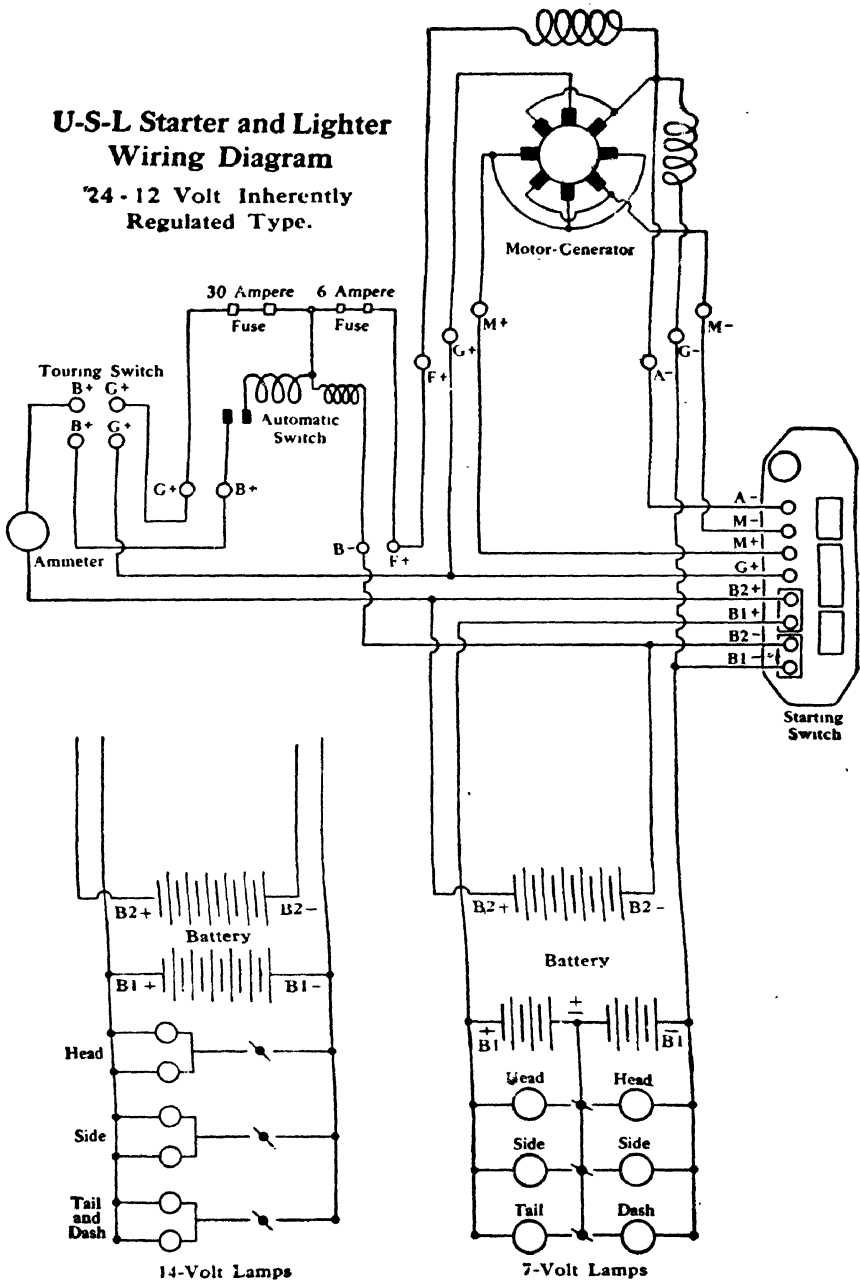
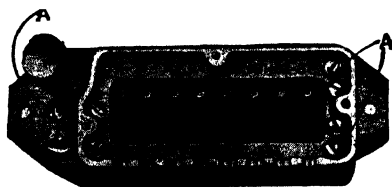

Fig. 335. Wiring Diagram for 24-12-Volt Inherently Regulated Type, U.S.L. System
Fig. 336. U.S.L. Oil-Filled Starting Switch
*Starting Switch.* The starting switch is filled with oil, and this should be renewed once a year. To do this, the switch must be disconnected, and the screws *A*, Fig. 336, removed; in case the box sticks, insert a screwdriver point between the top of the box and the bottom of the frame and pry loose. To guard against the switch dropping when these screws are removed, hold the hand beneath it while taking them out. Before attempting to remove the switch, disconnect the positive battery connections *B1+* and *B2+* at the battery as shown in Fig. 335. These are the two main terminals in the center. It is unnecessary to tape them, as a short-circuit cannot occur. Pour out the old oil, clean out thoroughly with gasoline, allow to dry, and refill with transformer oil or light motor oil to the proper level with the switch box standing plumb. The proper height on the Type E-2 or E-3 box is  $1\frac{5}{8}$  inches, on E-4 box  $2\frac{3}{4}$  inches. Before